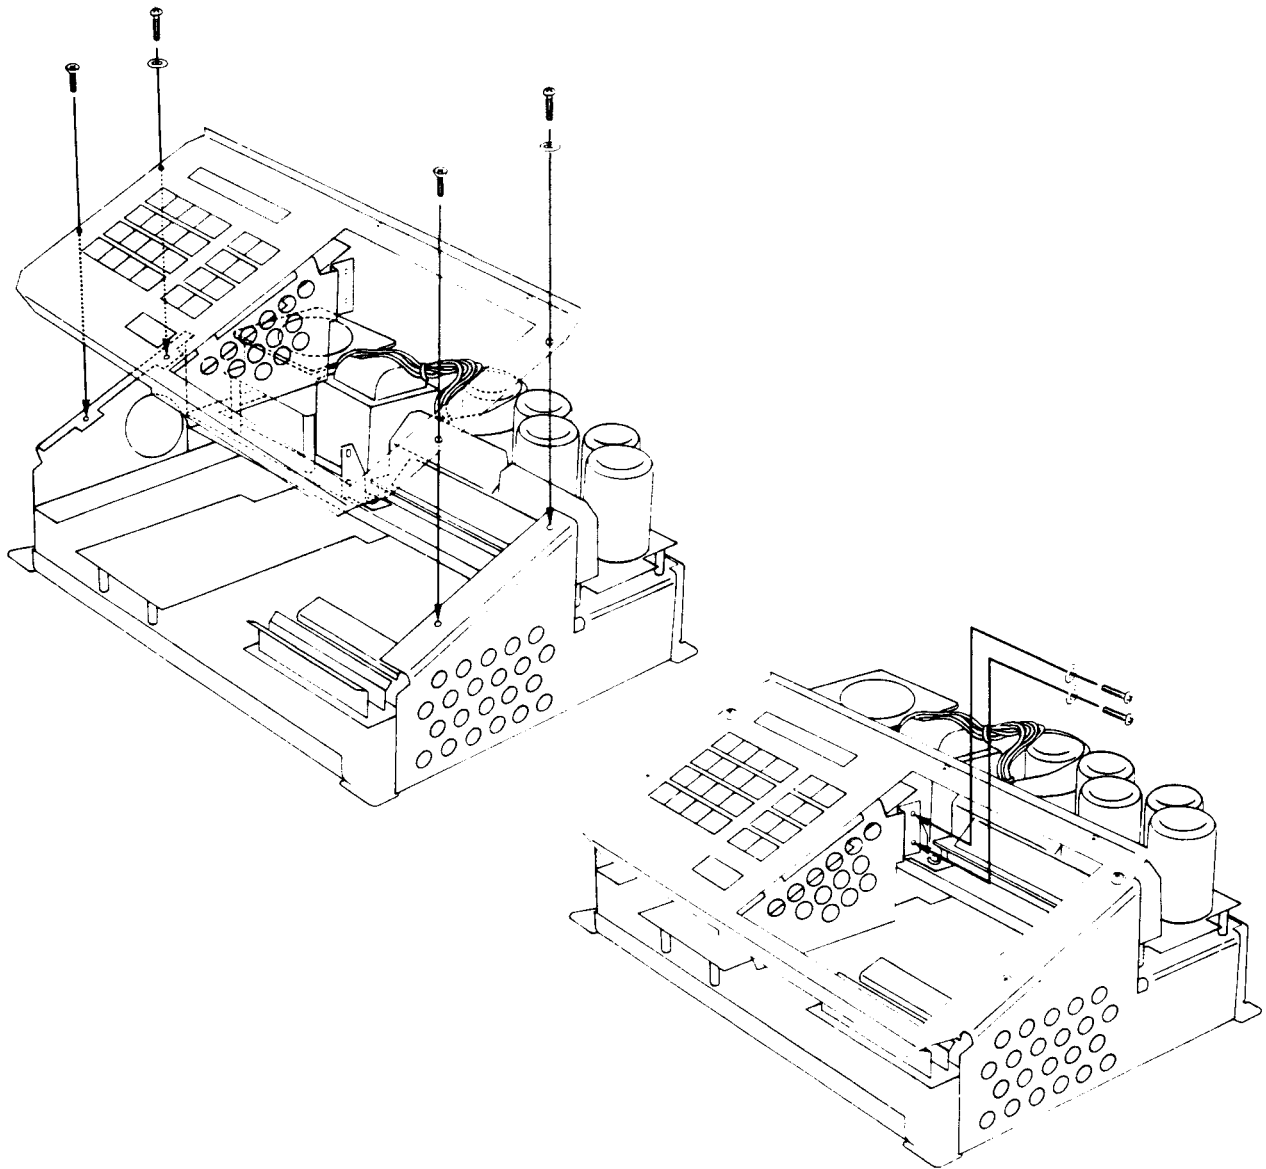

Figure 4-3. Front Panel Removal
2. Take off the top cover and remove the front panel of the programmer as shown in Figure 4-3. It is held in place with 4 screws, 1 in each corner and 2 more holding the center brace to the power supply assembly.